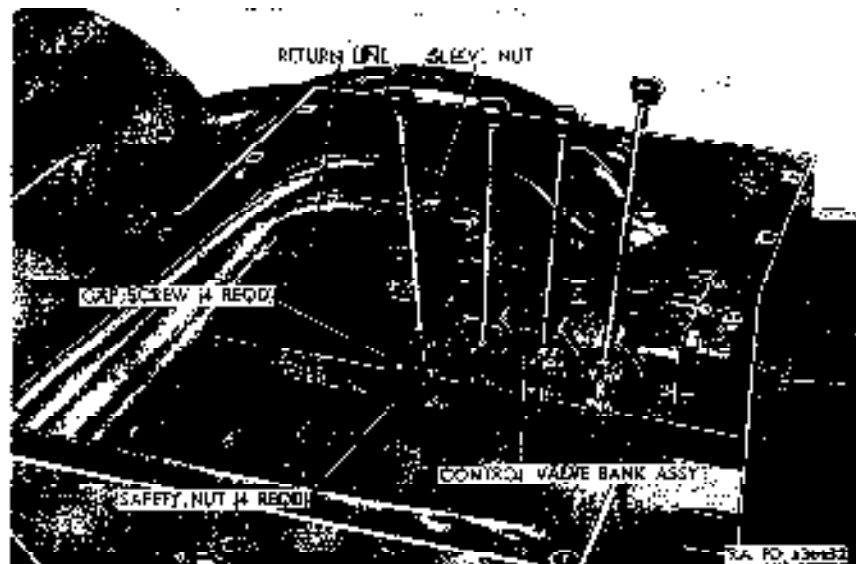

Figure 292. Near view of operator's compartment and control valve bank assembly with cover removed H02.
- (14) *Control valve bank assembly.* The control valve bank assembly (fig. 292) is bolted to a shelf at the front of the operator's compartment. Wrecker crane operating instruction and caution plates are mounted on the control valve bank cover (fig. 80).
- (15) *Hydraulic lines and fittings.* The tubing used in the crane hydraulic lines is of butt welded steel construction, and the fittings are Elmo's Endless. Flexible lines are high pressure-type rubber hose with swaged on couplings.